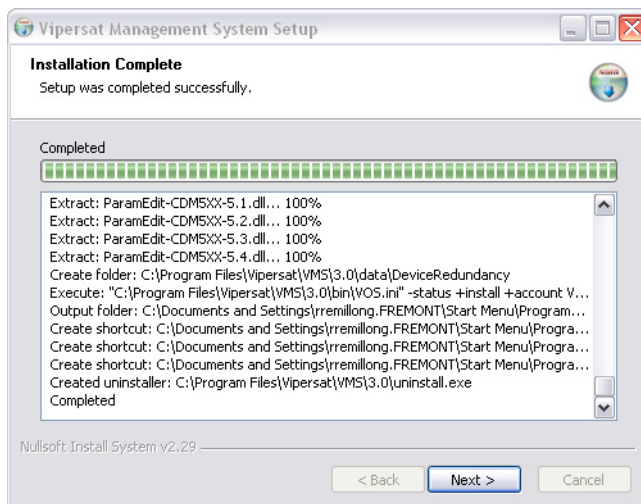

Figure 2-24 Installation Complete dialog
21. After installing and/or updating the key, the installation will complete as shown in figure 2-24. Click the **Next** and then the **Finish** button to exit the installation wizard.